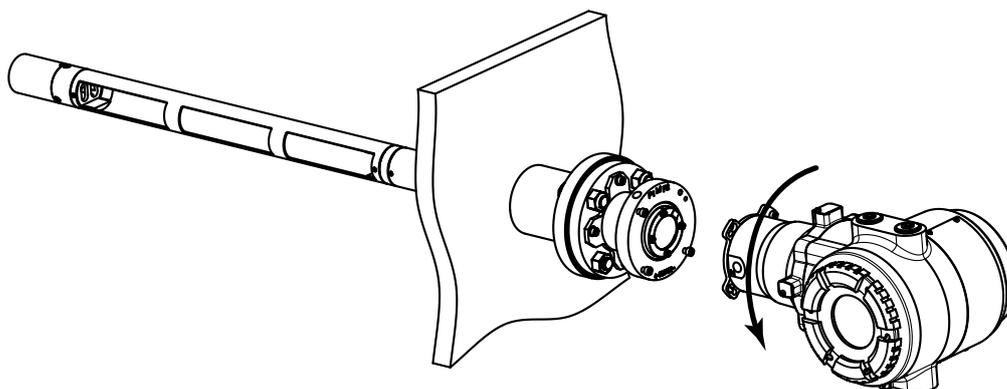

Figure 6.12 Removing from the process
- (1) Using a hex wrench (5 mm), remove only the upper right screw of the quick connector (see Figure 6.12).
- (2) Loosen the other screws.
- (3) Slowly turn the TDLS8200 counterclockwise to remove the analyzer from the probe.